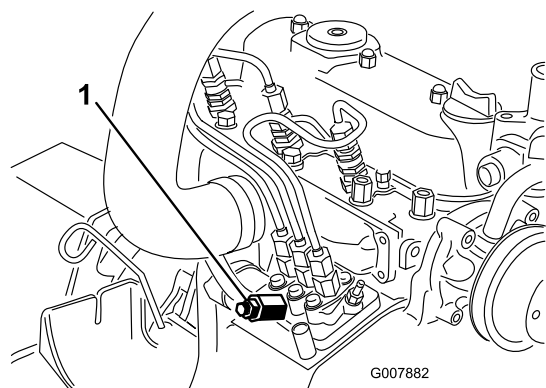

Figure 44
3. Place a rag under the air bleed screw on the fuel injection pump and open it (Figure 44).